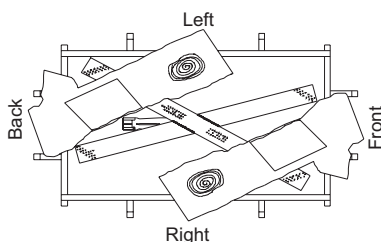

Figure 45 - Installing Logs "A" (Top View)
6. Place logs "A" as shown in Figure 45.